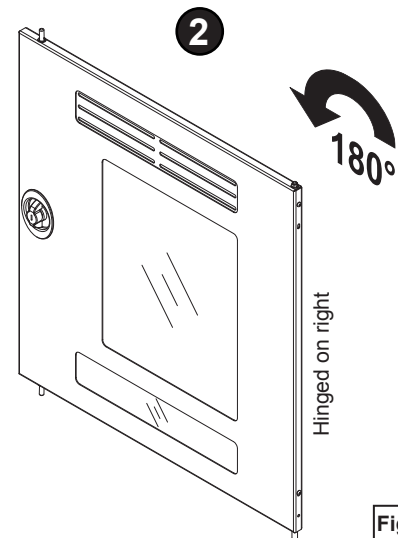

Figure 6.3
2. Rotate the door 180°. **Figure 6.3.**